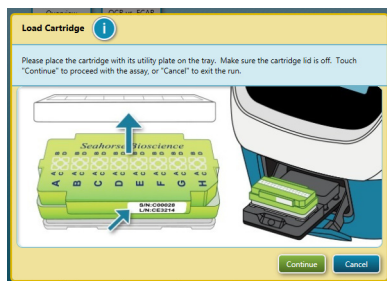

Figure 7. Load cartridge screen
- 1 Load the Cartridge (hydrated and loaded with compounds) and Utility Plate onto the tray when prompted. Ensure the cartridge fits properly on the Utility Plate, the lid is removed from the cartridge, and the direction of the cartridge matches the image on the screen. See **Figure 7**.